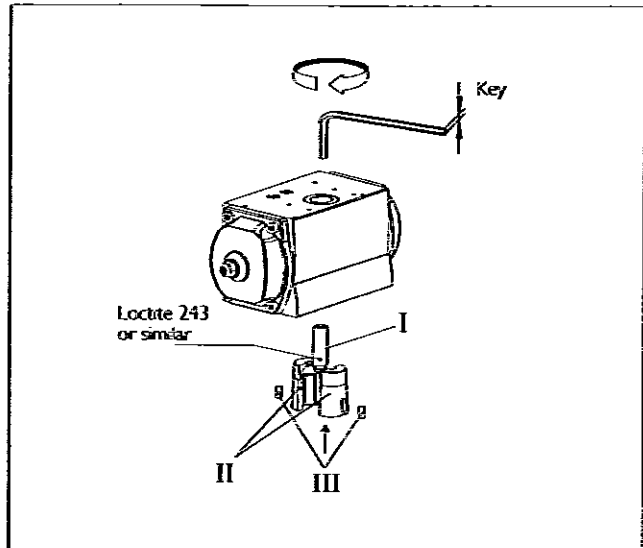

Fig. 21. Cone bushing installation
- Mount the bushing and the tightening screw from the mounting interface side of the actuator, according to Fig. 21. Insert cylindrical pins (III) in the bushing slots, these must be directed into the corresponding slots in the actuator during tightening. Before the installation of the bushing and the tightening screw, remove impurities such as old threadlocking material from the threads of the tightening screw, and apply Loctite 243 or similar threadlock carefully to the threads, as shown in Fig. 21. Turn the tightening screw from inside the actuator shaft using a suitable hex key, Fig. 21.